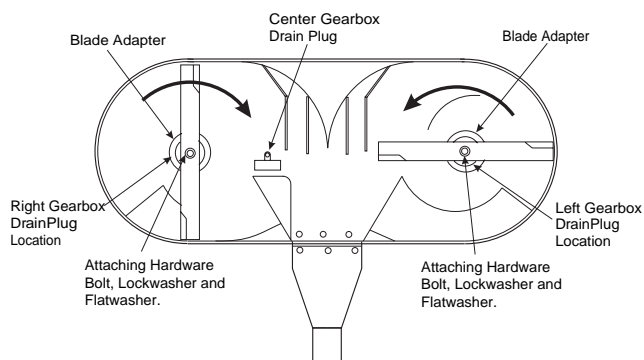

Figure 7-13 Gearbox Drain
3. Beneath the cutter deck is an access hole to center gearbox drain plug (Figure 7-13). Clean the area thoroughly and then place a suitable container under the drain plug.
*The blades must be installed 90° to each other as shown in Figure 7-13. If the blades are not installed as shown, they will contact each other and could cause severe damage to the blades, deck, and blade drive system.*